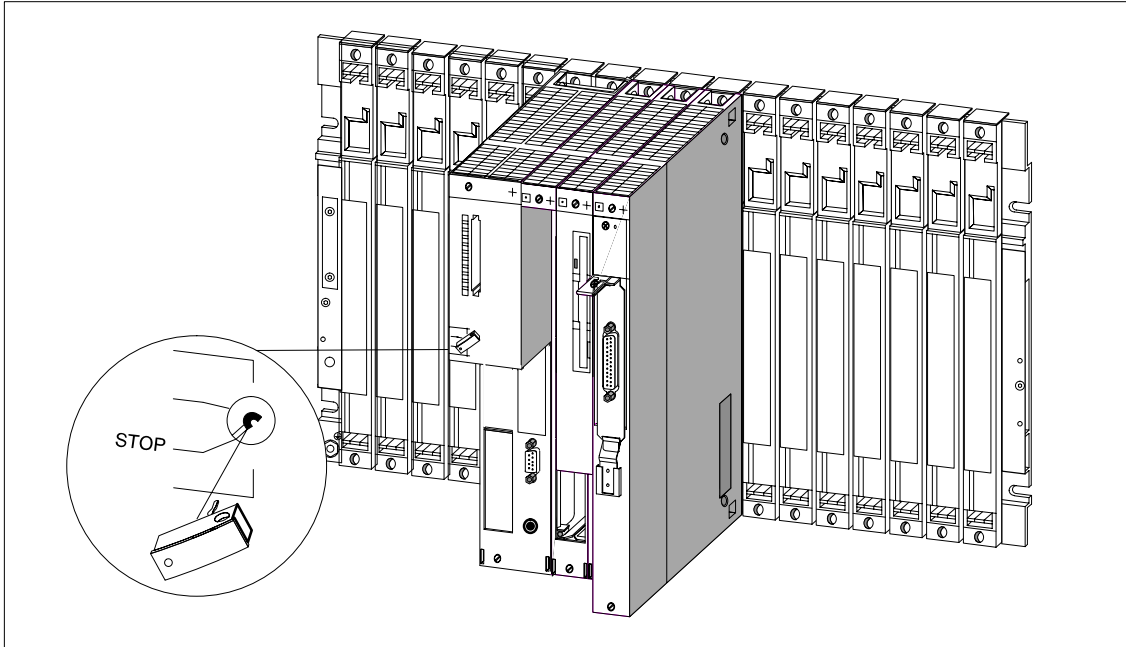

Figure 8-14 Inserting the Key in the CPU
6. Insert the key of the CPU mode switch when you have fitted all modules (see Figure 8-14).
Figure 8-14 shows how to insert the key in the CPU at the STOP position of the switch. You can remove the key at the STOP or RUN settings.